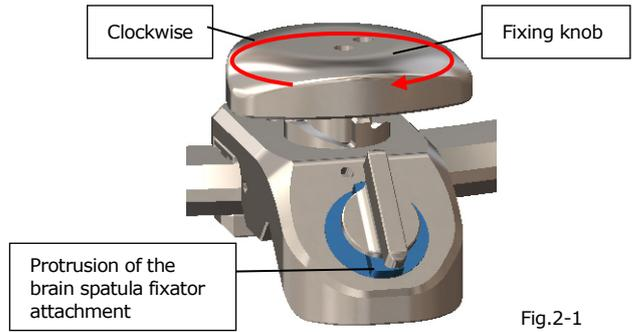

Fig.2-1
(2)-1 Position the protrusion of the brain spatula fixator attachment perpendicular to the frame (Fig.2-1).
(2)-2 Rotate the fixing knob clockwise to fix the fixator temporarily (Fig.2-1).